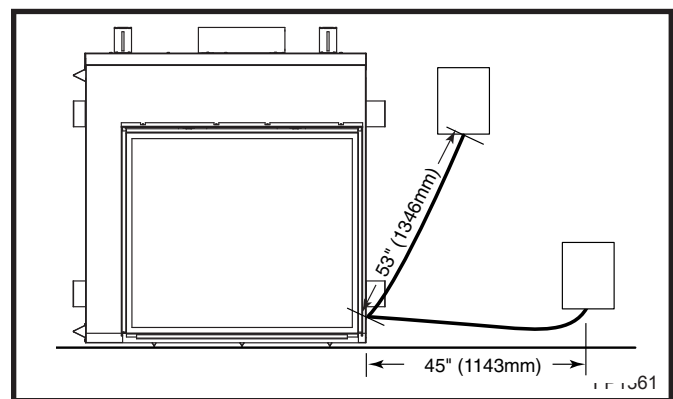

Fig. 6 Valve box assembly location.
5. The gas components are located in the control panel assembly attached to the right side of the unit. Choose the desired location on the wall or mantel for the valve box assembly. The conduit length is 5' (1524 mm). (Fig. 6) The framing dimensions for the box are 12 1/4" L x 9 1/4" W x 5 5/8" D (311 x 235 x 143 mm). When the framing for the box is complete, remove the screws securing the valve box to the outer casing. Carefully remove the valve box and, without stressing the conduit, slide the box into the framed opening. Replace the screws removed from the side of the outer casing.